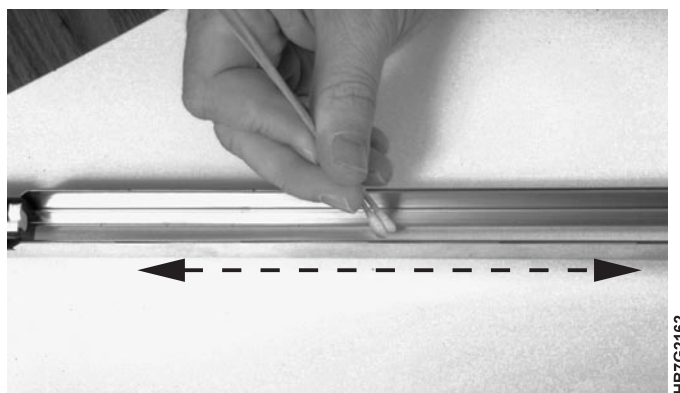

Figure 266. Cleaning a Scorotron Wire
11. Clean each corona wire by placing it between two cotton swabs, moistened with soapy water, held in one hand. The picture in Figure 266 shows cleaning the wire in a scorotron; however, the cleaning method is the same for the wires in the TED assembly.